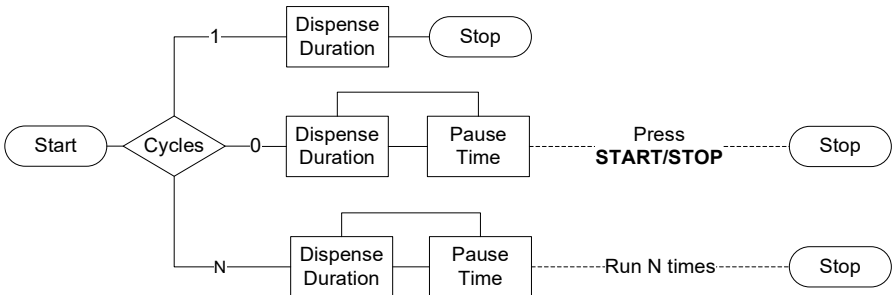

Figure 17. Dispense Cycle Setting
- 5. Cycles: Number of cycles for dispense mode. The range is 0-999 cycles. When it is set to 0, the dispensing process will keep running until **START/STOP** is pressed. When it is set to the other value, the pump will stop when the set number of dispensing cycles are completed (*Figure 17*).